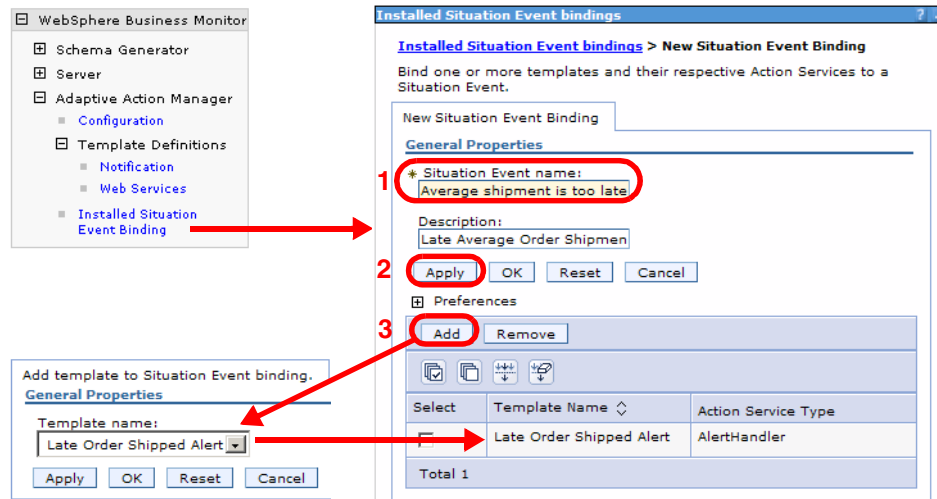

Figure 12-19 Situation event bindings configuration
- ▶ Click *New* and enter the situation event name, and a description. Click *Apply*. Click *Add* to select the template to bind for this situation event. In our case we select the Late Order Shipped Alert. Click *OK* (Figure 12-19).